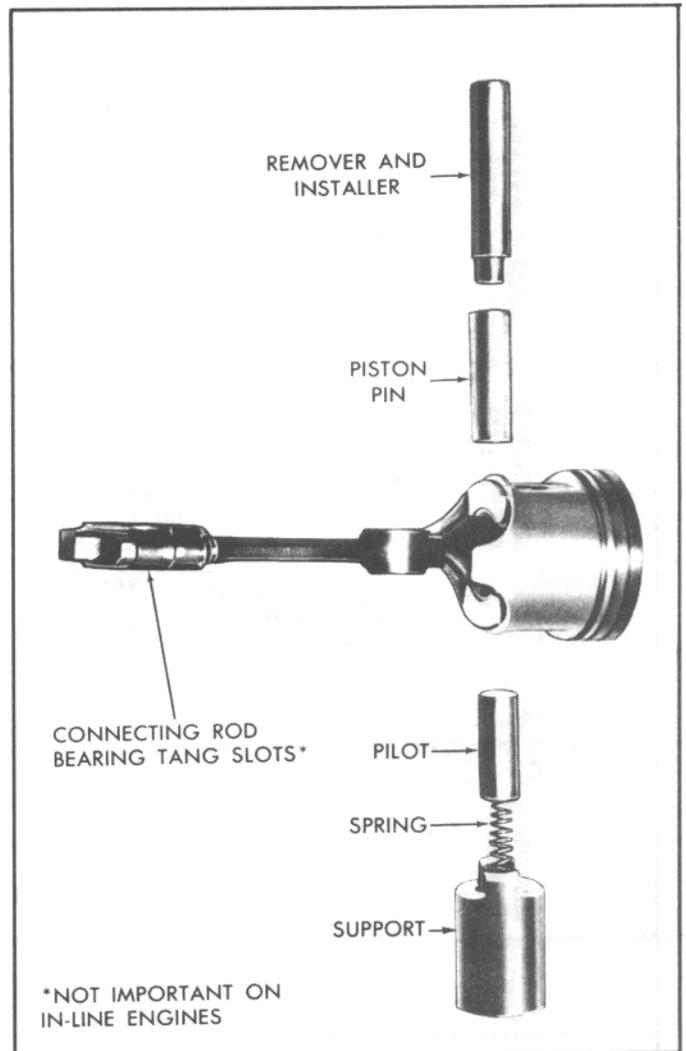
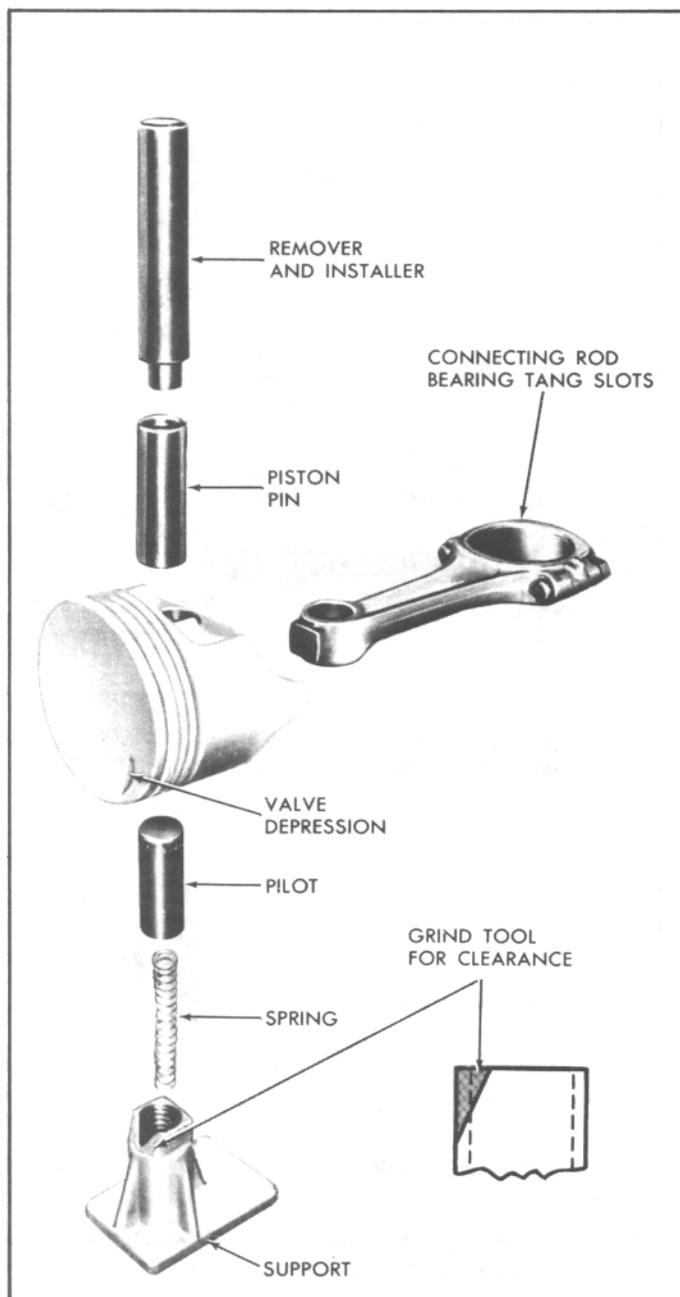

Fig. 75. Piston Pin & Tool Layout (In-Line & "Small V8")
Fig. 76. Piston Pin & Tool Layout ("Mark IV V8")
2. Using tool J-9510 for In-Line and small V-8 (Fig. 75) or tool J-6994 for 454 CID V-8 (Fig. 76) place support with spring and pilot in place on an arbor press.
3. Position piston on connecting rod with appropriate side of piston (Fig. 77) and connecting rod bearing tangs aligned (Fig. 75 or 76).